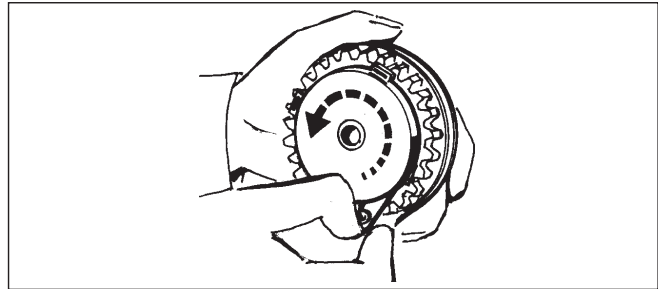

Fig. 25
- Place spring on gear and preload two turns. Lock by inserting locking pin. (Fig 25).